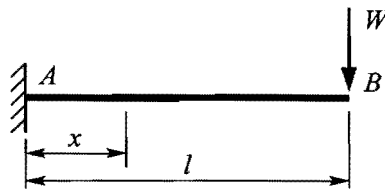

Figure 4
- † 5. Figure 4 shows a uniform cantilever, AB , of length l , carrying a transverse force, W , at B . Find the support reactions acting on the beam at A and the bending moment, $M(x)$, at a distance, x , from A where $0 < x < l$.